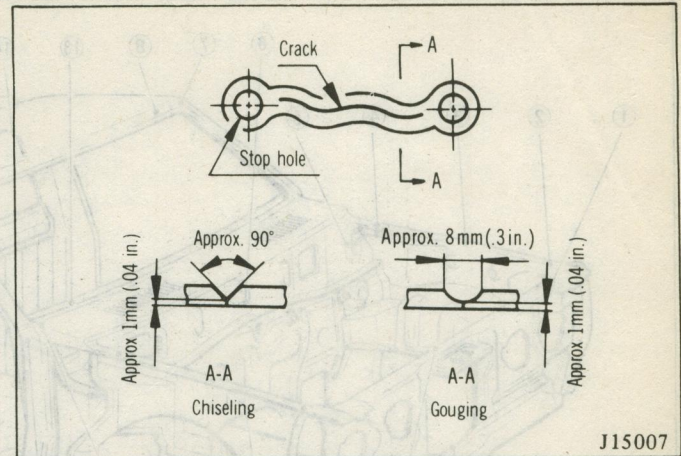

Fig. 4 Crack Repair Procedure (2)
(2) Remove the cracked area, using a chisel or a gouging blowpipe. Fill the chiseled or gouged area and the stop hole completely by two- or three-layer electric welding, and finish the welded area with a grinder. (Fig. 4)